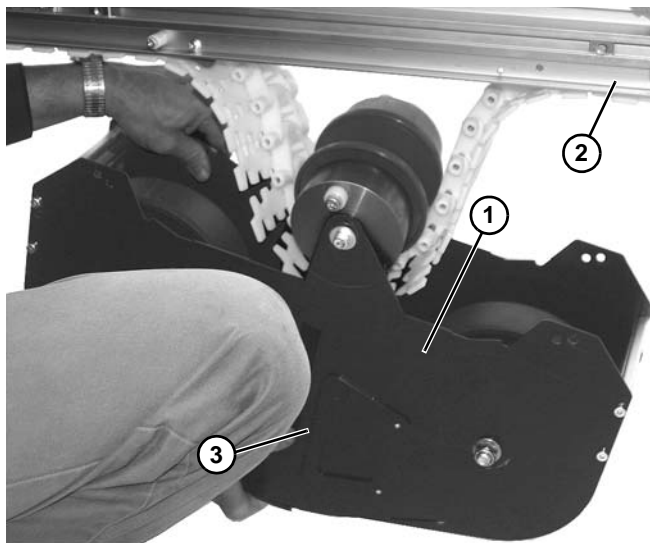

Figure 132
2. Lower weighted take up assembly (Figure 132, item 1) from conveyor (Figure 132, item 2) by disengaging locking teeth (Figure 132, item 3) on both sides.